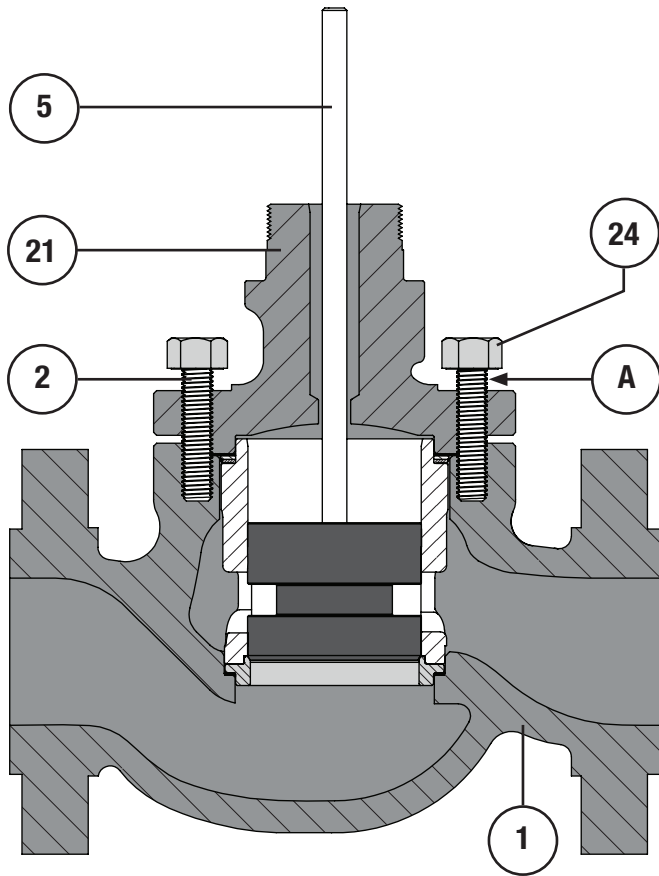

Figure 16 Bonnet Installation
- 1 Apply Permatex® Nickel Anti-Seize (Key A) to the gasket sealing surface of the valve bonnet (Key 21). Refer to Figure 16.